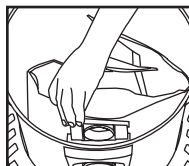

FIGURE 15
24. Slide the inlet deflector with the filter bag attached into the deflector guide. **FIGURE 15.**